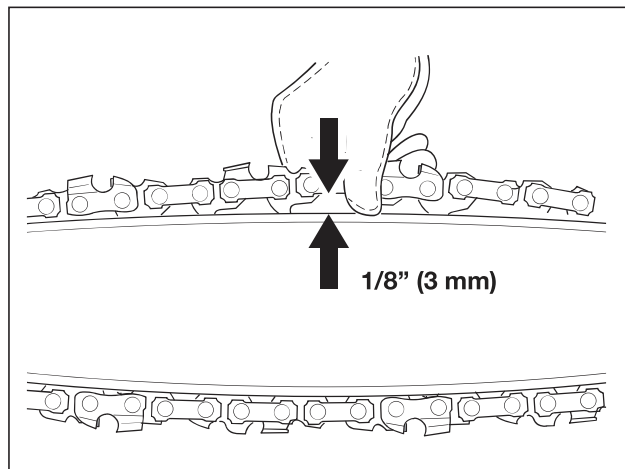

Fig. 1
1. Check the chain tension by pulling the saw chain away from the guide bar. A properly tensioned chain should have roughly 0.12in.(3 mm)of distance between itself and the bar guide (Fig. 1).